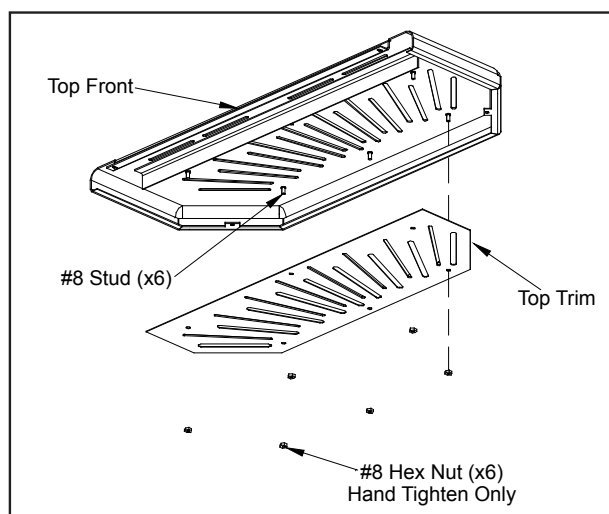

Figure 43: Top front with top tri
Place the new trim on its corresponding studs (see Figure 43) and finger tighten the six (6) #8 hex nuts.